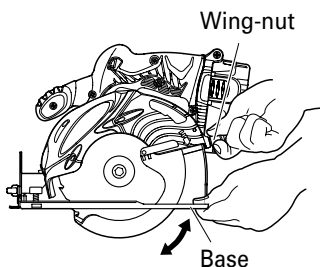

Fig. 8
If the wing nut to adjust cutting depth (Fig. 8) is loose, injury can result. Make sure that it is tightened securely.
1. Adjusting the cutting depth (Fig. 8)